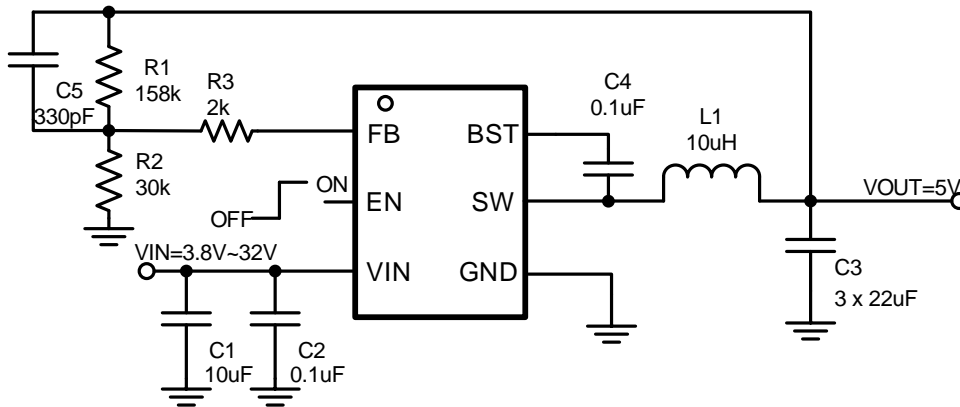

Figure 13. 24V Input, 5V/3A Output
The SCT2331 features external programmable output voltage by using a resistor divider network R1 and R2 as shown in the typical application circuit Figure13. Use equation (11) to calculate the resistor divider values.